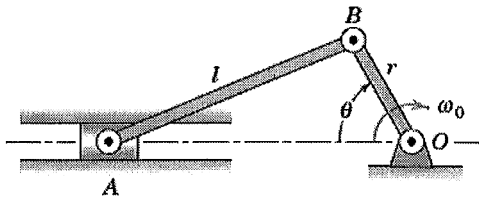

Fig. 6a
6. (a) One of the most common mechanisms is the slider-crank (**Fig. 6a**). Express the angular velocity ω_{AB} and angular acceleration α_{AB} of the connecting rod AB in terms of the crank angle θ for a given constant crank speed ω_0 . Take ω_{AB} and α_{AB} to be positive counterclockwise. (10)